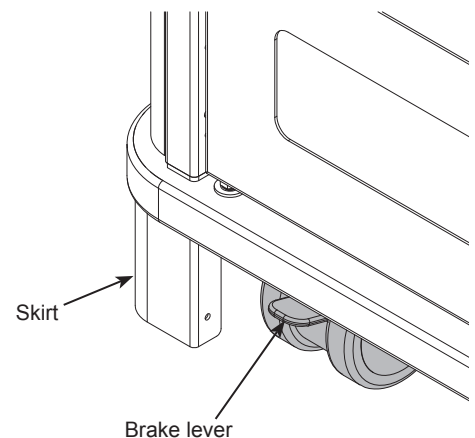

Figure 4
1. Lock the brake levers to lock movement of the casters. (Two instructor-side casters only). **Figure 4.**